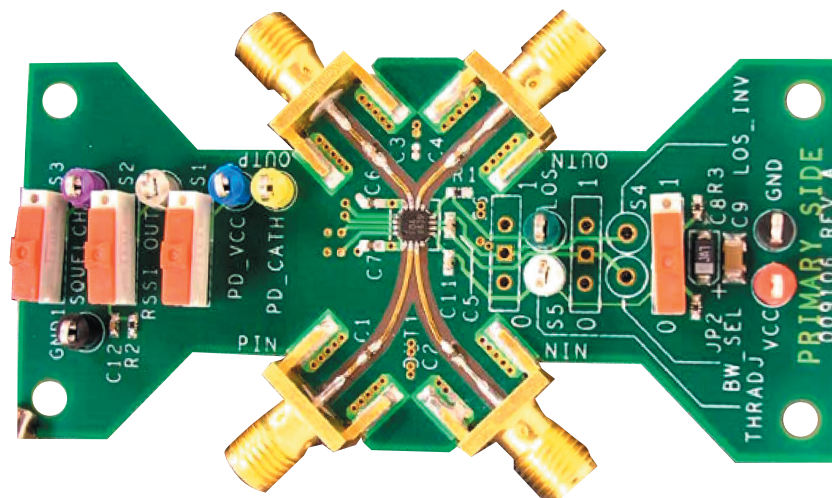

Figure 1. The Switch Factory Default Settings of the ADN2891 Evaluation Board
Please refer to Figure 1 for each of the following steps:
1. Set the switch from S1 to S4 to the factory default setting shown in Figure 1 where the Switch S3 disables the squelch function by connecting to ground. S1 and S2 set the RSSI function, and S4 sets the LOS threshold resistor (default setting is 100 k Ω).